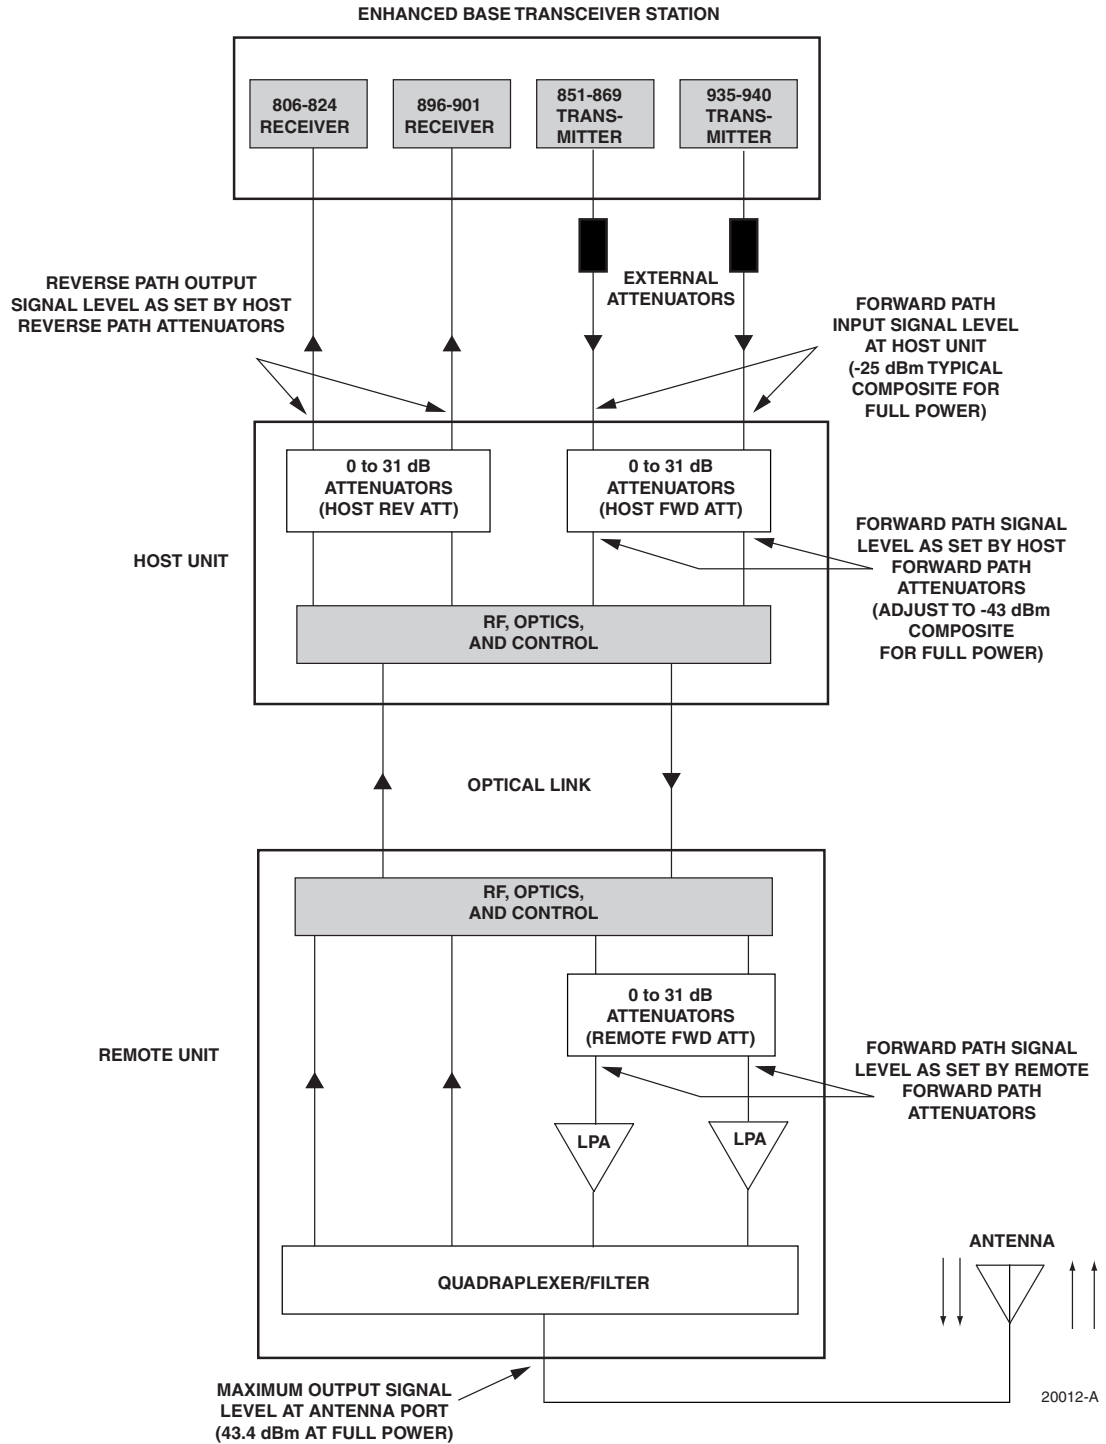

Figure 3-5. Signal Levels, Test Points, and Adjustments
1. Connect a spectrum analyzer or power meter to the 851–869 MHz forward path output port at the EBTS. The required signal levels and test points are shown in Figure 3-5.